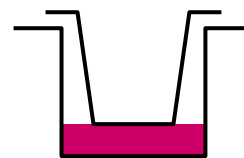

Figure 1
3. Add 250  $\mu$ l of media to the lower chambers of each insert by pipetting down the side of the outer well between the insert and the well. Pipet carefully to avoid bubbles under the insert. The media should just touch the bottom of the insert (**Figure 1**).